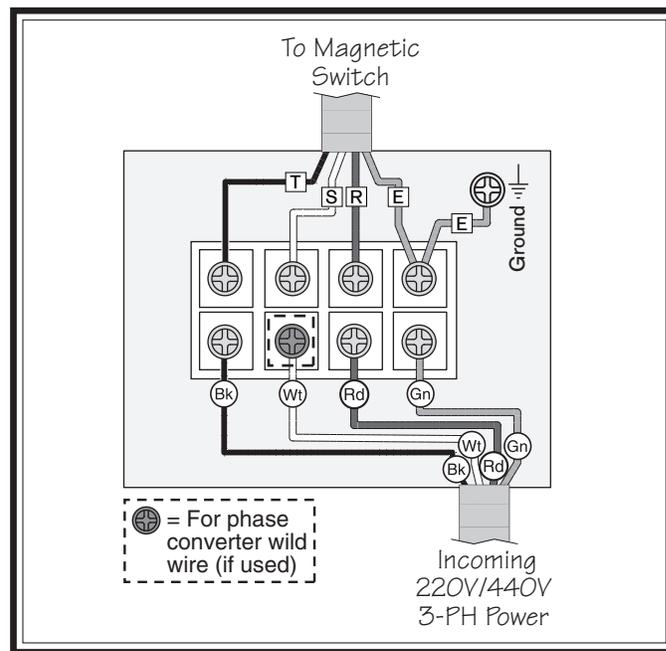

Figure 29. Terminal box connections.
2. Insert incoming power wires through strain relief (see Figure 29) at bottom of junction box, connect wires to terminals shown below, then install junction box cover.
Note: When using a phase converter, connect the manufactured power leg or "wild wire" to the terminal indicated in Figure 29). This terminal can handle power fluctuation because it is wired directly to the motor. The other wires connect to the controls and must be consistent to prevent damage.